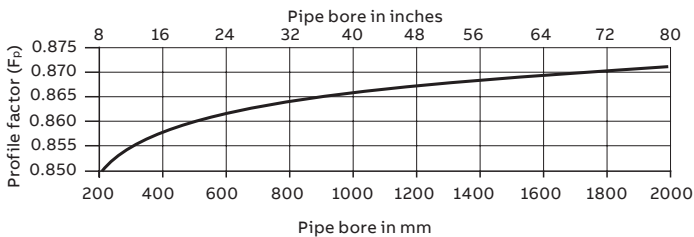

Figure 14 Profile factor vs velocity for pipe sizes 200 to 2000 mm (8 to 80 in)
- 2 Determine the profile factor F_p from Figure 14.
F_p = 0.861 (derived from Figure 14)